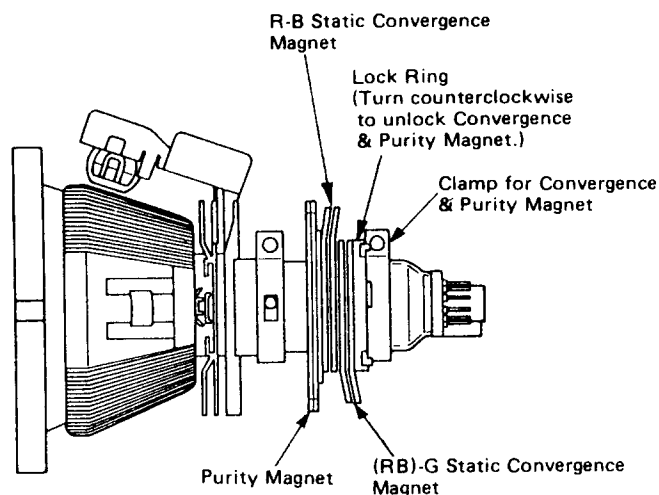

Figure 28
- Loosen the convergence magnet lock ring and converge the red and blue lines at the center of the screen, by rotating the R-B Static Convergence Magnet. (See figure 28)
- Align the converged red/blue lines with the green lines at the center of the screen by rotating the (RB)-G Static Convergence Magnet. (See figure 28)
(See figure 28 and 30)
- Loosen the purity magnet lock ring (see figure 28) and adjust the purity magnet to set the vertical green raster precisely at the center of the screen. (See figure 30) Then tighten the lock ring.